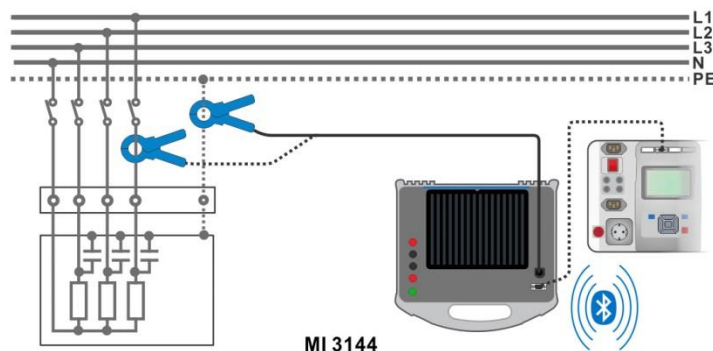

Figure 6.100: Current Clamp Meter measurement
- ▶ Wrap the object under test with the measuring clamp. See **Figure 6.100**. Refer to *MI*